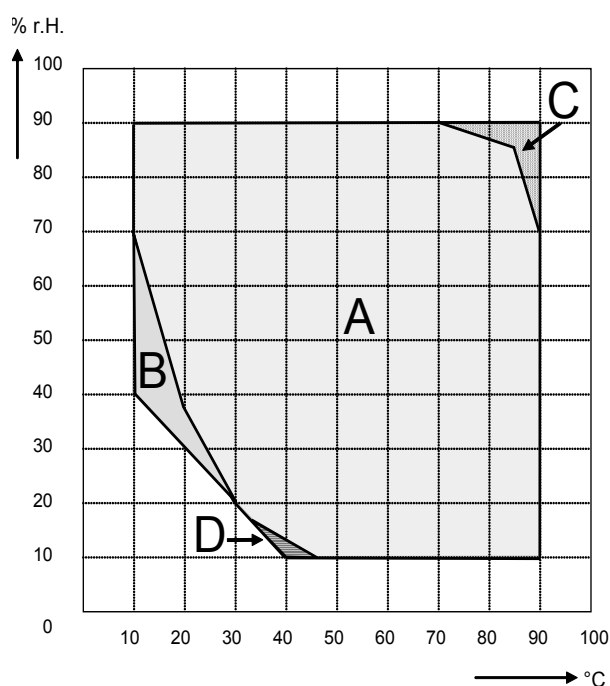

Figure 20: Temperature-Humidity diagram KMF
The climatic test chamber KMF is equipped with a capacitive humidity sensor. This results in a control accuracy of up to  $\pm 3\%$  r.H. of the set point. The temperature-humidity diagrams (Figure 20) show the possible working ranges for humidity.
<p>The preset temperature and humidity values should be situated within the optimum range (hatched range in Figure 20). Only within this area will the unit not be exposed to excessive moisture due to condensation.</p> <p>In the short-term set points outside the optimum range can also be targeted. The control accuracies of <math>\pm 3\%</math> r.H., however, cannot be guaranteed in this case.</p>
When humidity switch "ON / OFF" (3) (located on the lateral control panel) is "ON", the climatic test chamber KMF dehumidifies as needed in order to reach the entered humidity set-point inside the control range of temperature and relative humidity (Figure 20).